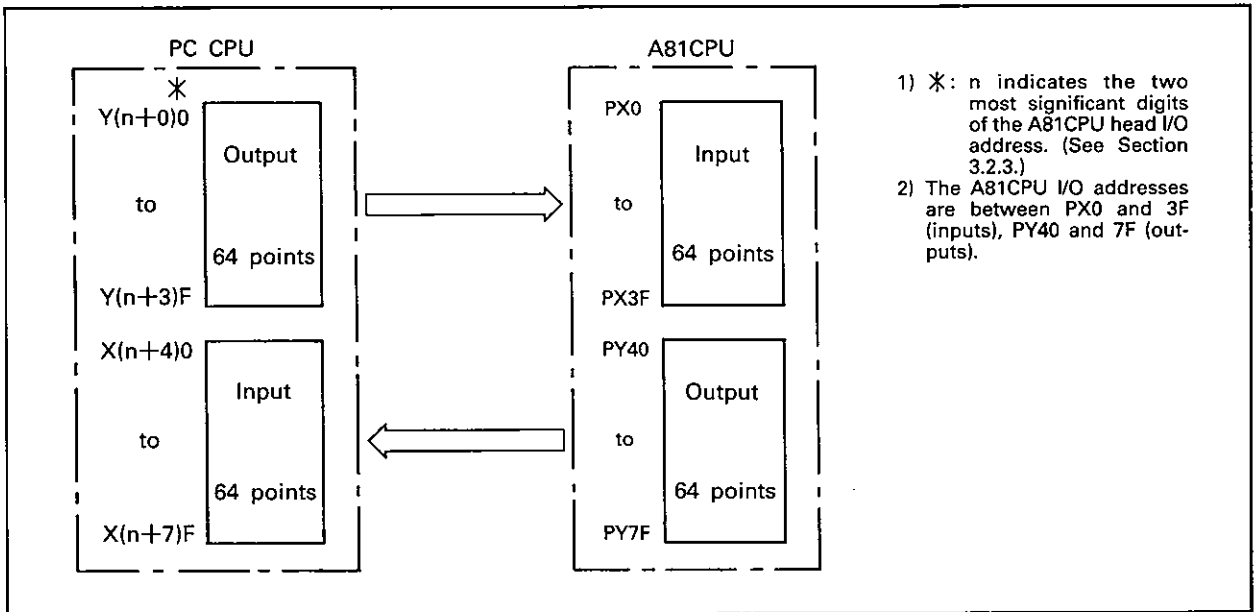

Fig. 3.1 I/O (PX/PY) Configuration
- (2) 64 inputs and 64 outputs are configured as shown in Fig. 3.1.